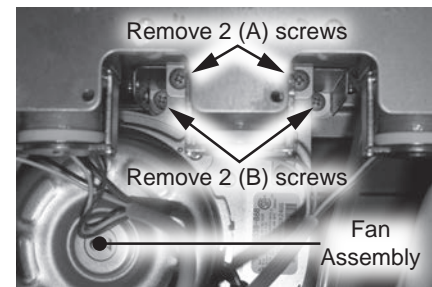
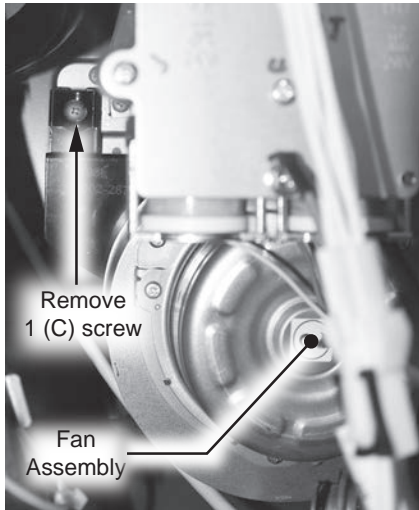

Figure 102 - Fan screw location (A & B)
Figure 103 - Fan screw location (C)
- 21 Locate the five screws securing the fan assembly to the burner. There are two screws securing the front of the fan assembly (A), two screws securing the back of the fan assembly (B), and one screw securing the fan bracket (C) to the water heater cabinet. See Figure 102 & Figure 103.